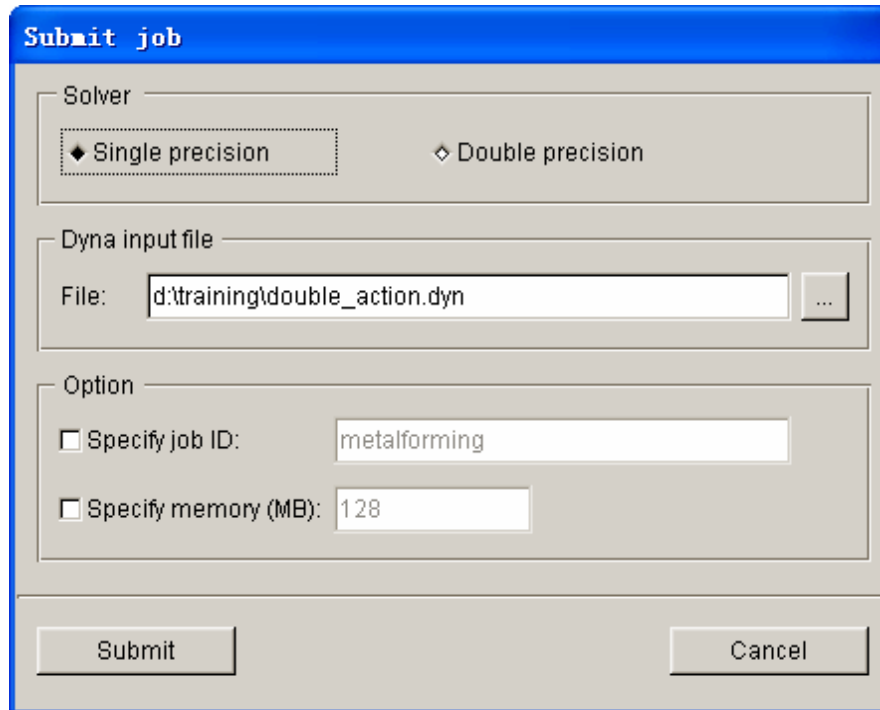

Figure 2.40 Submit job dialog box
2. The program pops up the SUBMIT JOB dialog box illustrated in Figure 2.40. You can select type of solver (either single or double precision), location of Dyna input file, specify job ID and memory allocation.